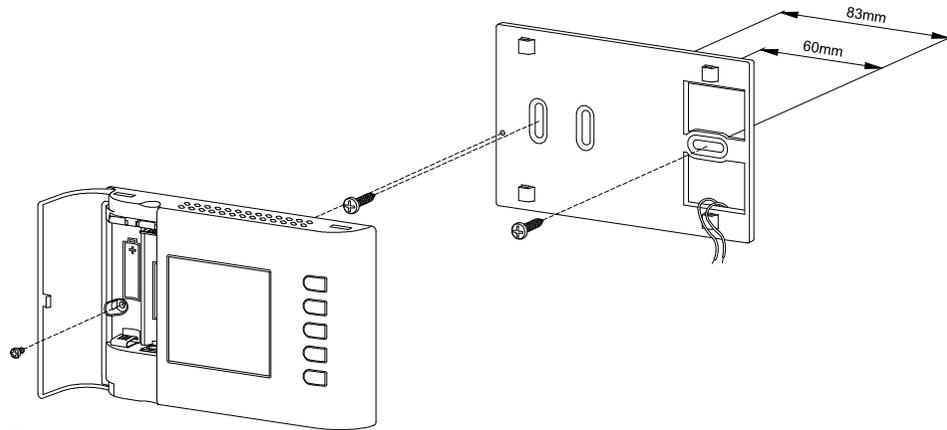
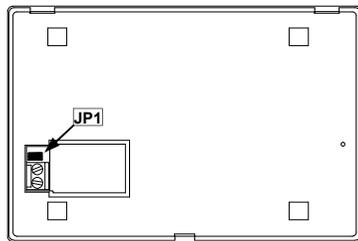
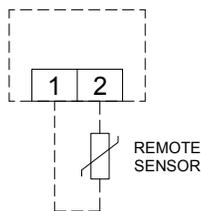

Fig. 2
Fig. 4
Fig. 5
4. Pass the wires through the rectangular opening in the wall plate (Fig. 2) following the connection diagram of Fig. 5, to electrically connect the eventual remote probe. Eventually remove jumper **JP1** (Fig. 4) by reading the "INSTALLER CONFIGURATION" paragraph.